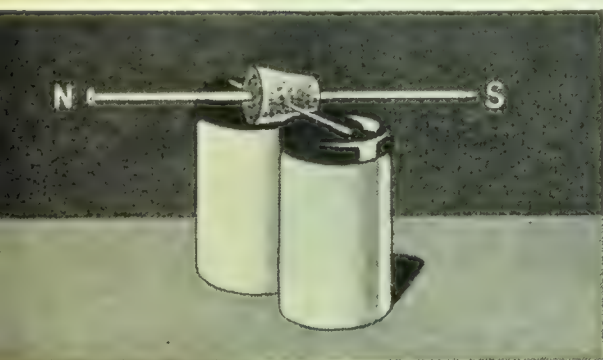

FIG. 503
9. Make a *dipping needle*. Get a long steel knitting needle and a darning needle that are not magnetized. Push the knitting needle through a cork in one direction and the darning needle through the same cork at right angles to the knitting needle. Balance the apparatus on two smooth jars or bottles, as shown in Figure 503, by pushing the knitting needle through the cork until it stands exactly level. Have the knitting needle pointing north and south.